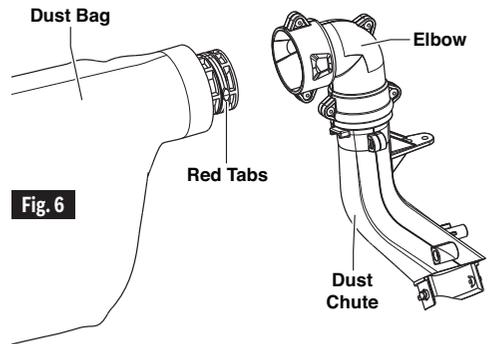

Fig. 6
**Attaching (and Removing) Dust Bag** – To attach the dust bag, squeeze the two red tabs together and slide the dust bag into the dust port rib (see figure 6).